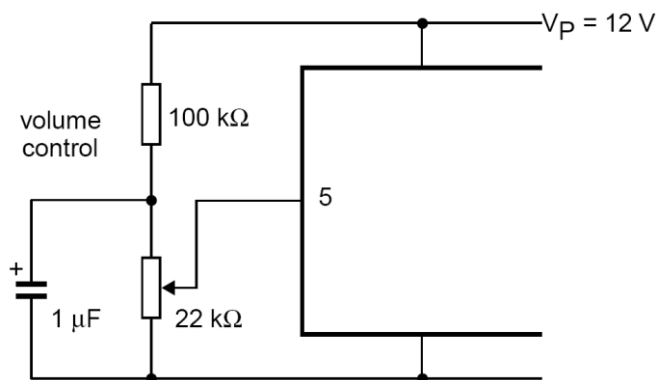

Fig.14 Application with potentiometer as volume control
- The DC volume control can be configured in several ways. Two possible circuits are shown in Figs 14 and 15. The circuits at the volume control pin will influence the switch-on and switch-off behaviour and the maximum voltage gain.